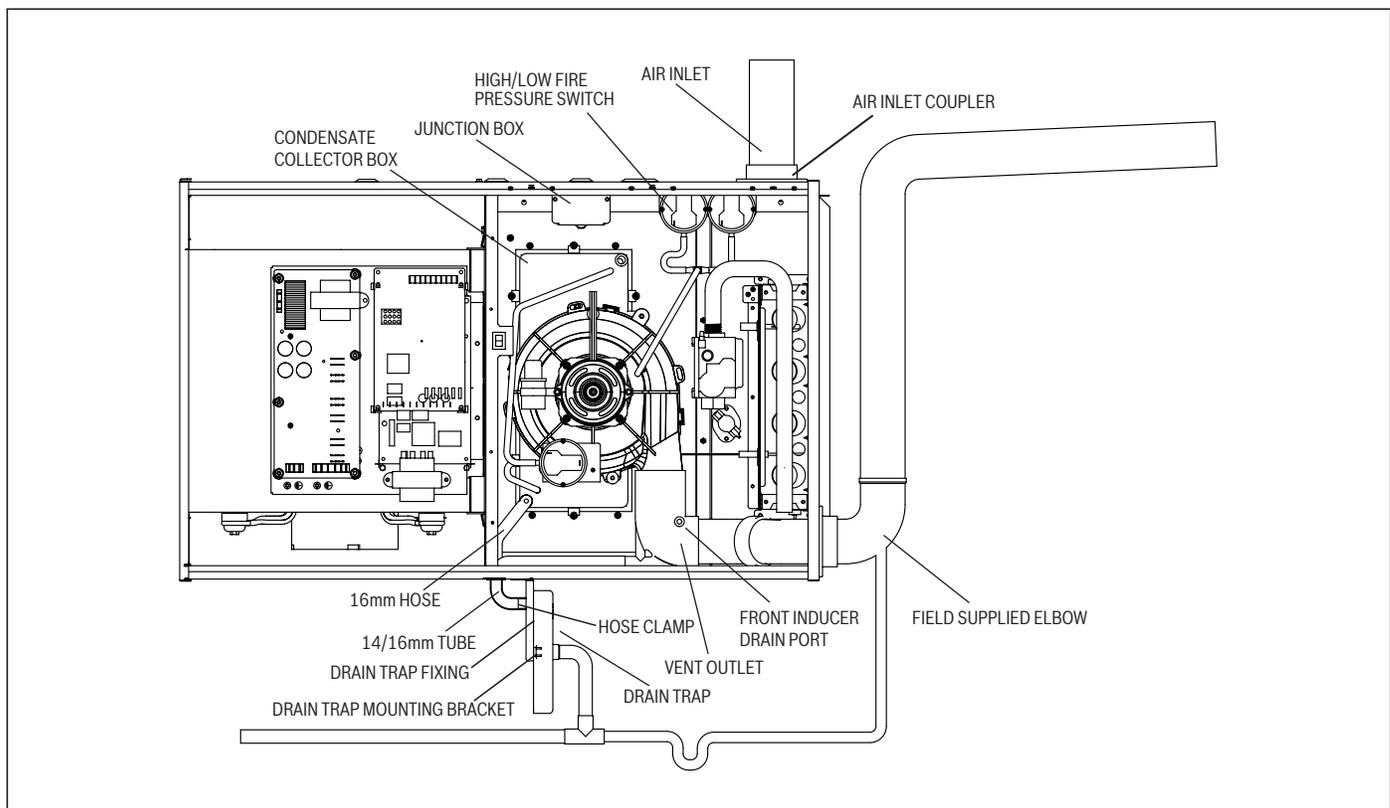

Figure 17 Horizontal right-hand side installation
#### For installations with right air discharge and venting outlet through furnace top panel (see Figure 17).
9. Connect 14 mm hose between the side inducer drain port (remove black rubber plug to connect hose) and drain trap. Refer to Figure 17.